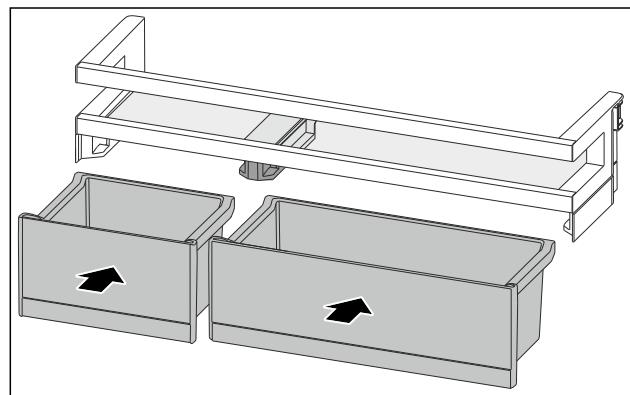

Fig. 108
- ▶ Insert the VarioBoxes in reverse order. (see Fig. 108)